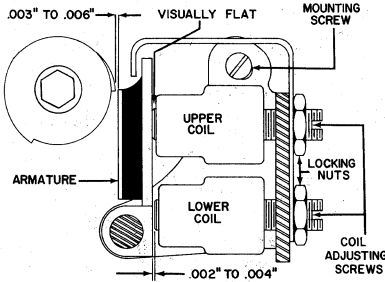

Figure 7
1. Loosen the locking nut for the top clutch magnet coil, adjust the upper coil so its core is visually flat to the manually attracted armature, and tighten the locking nut (Figure 7).